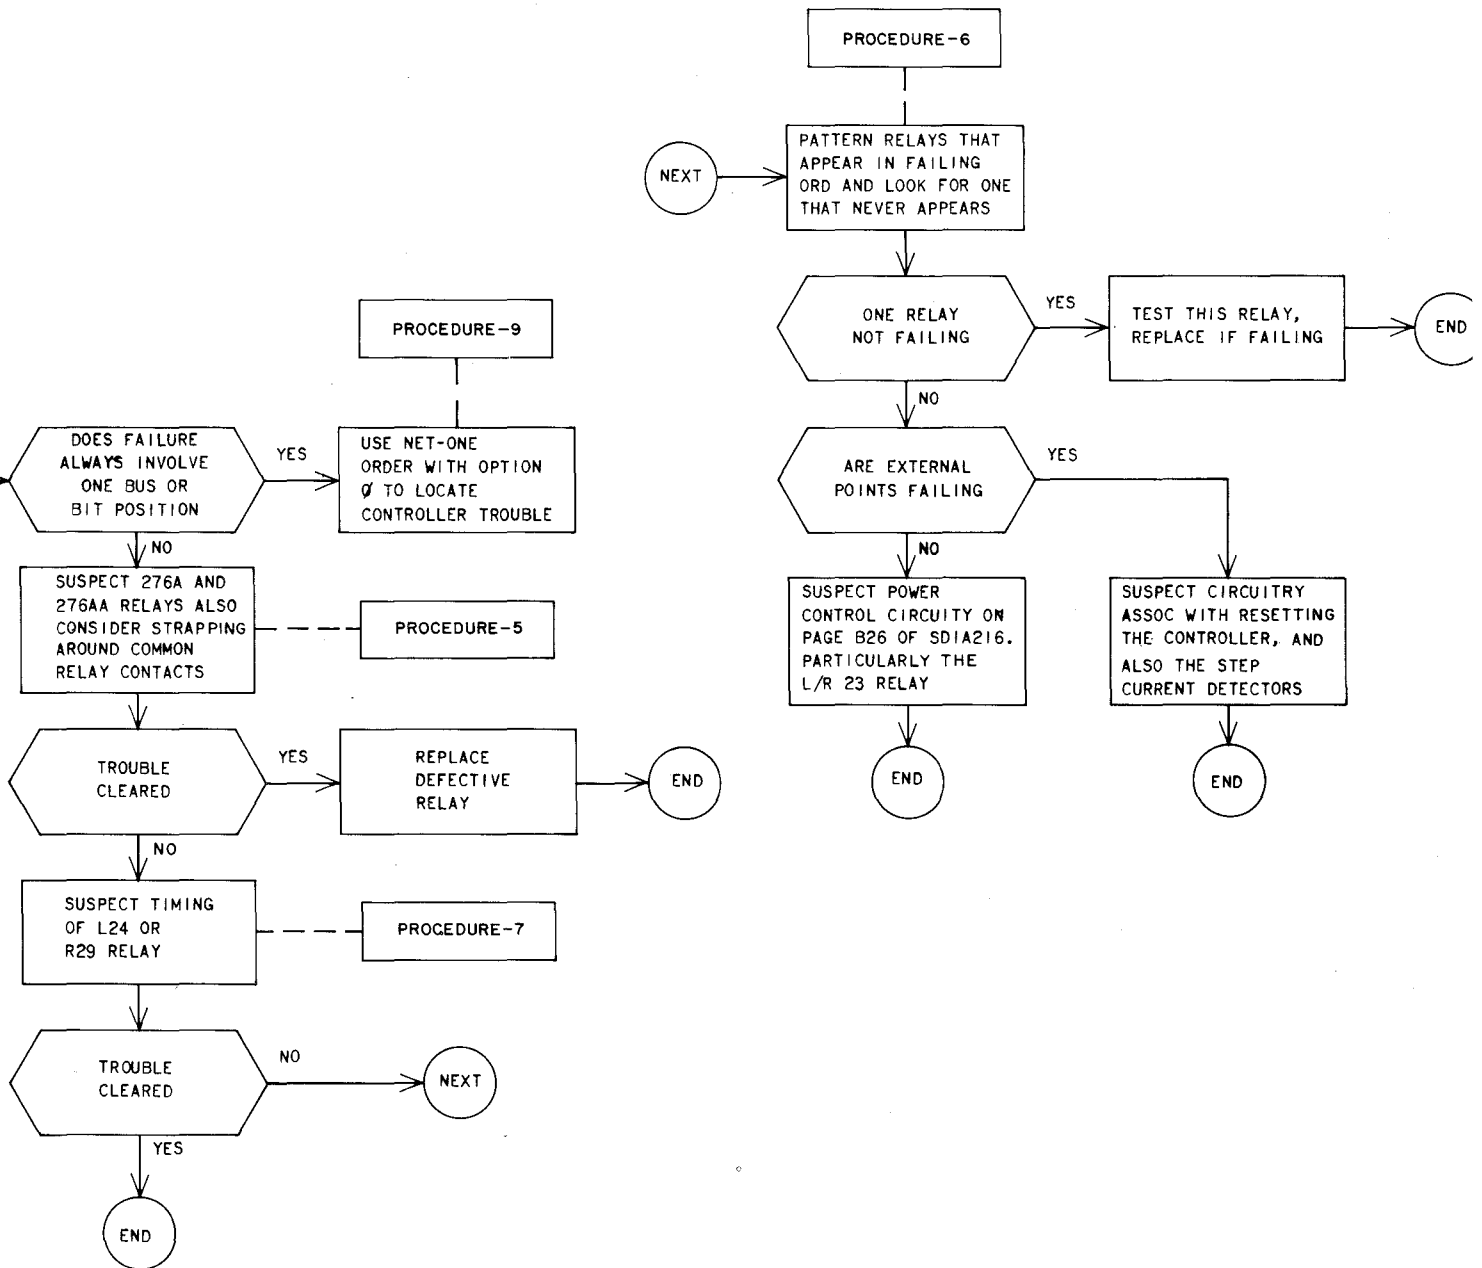

Fig. 5—Relay Trouble Location Flowchart
**6.01** Using Fig. 5 flowchart with numbered Procedures listed in 6.02 through 6.29, this section can be used as a guide to locating most problems encountered in the relay section of Signal Distribution Frames.